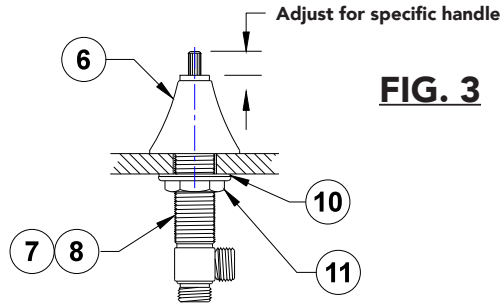
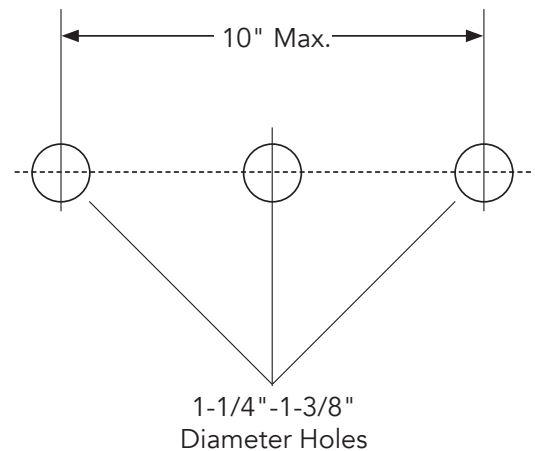

FIG. 3
FIG. 1
1. Confirm hole is in conformance with **Fig. 1**
2. Remove nut (17) and washers (15)(16) from spout.
3. Drop quick connect (13) from top of counter.
4. Install washers (15)(16) and nut (17) from bottom of counter and tighten.
5. Install "T" (18) with suitable pipe sealant.
6. Install hot and cold valve assemblies (7)(8) from bottom of counter. Install valve escutcheon (6) **Fig. 3** on valve assemblies. Adjust valve assemblies per **Fig. 3**, tighten nut (11) on each valve assembly
8. Install hot and cold hoses (12) from "T" to each valve assembly.